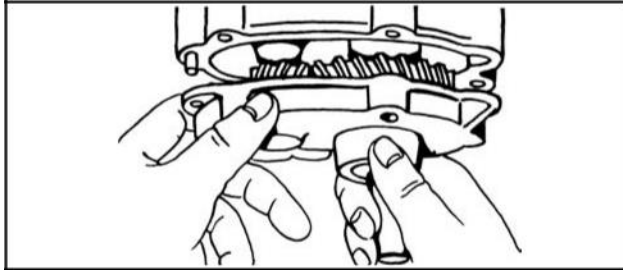

Fig. 121
5. Mount gear case cover by inserting the intermediate gear shaft into gear. Then turn drive gear back and forth until gears mesh and push cover in place. Tap it lightly to get in on dowel pins, Fig. 121.